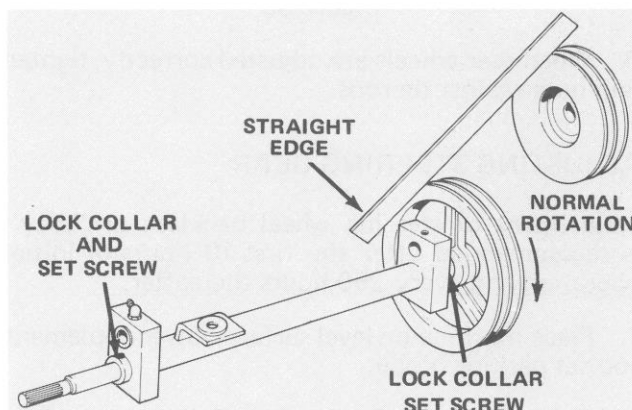

Figure 52
3. Loosen set screws in lock collars at front and back of PTO pivot shaft (Fig. 52). Using a punch and hammer, loosen collars by driving them opposite the direction of normal shaft rotation. The PTO shaft and PTO pulley assembly should now be free to slide.
4. Using a straight edge, line up top of engine pulley, with top of PTO pulley (Fig. 52). When top of pulleys are aligned, bottom of pulleys are misaligned by 3°. Move PTO pulley until it is in line with the engine pulley. Then lock the pivot shaft and pulley in place by tightening the lock collars in the normal direction of shaft rotation (Fig. 52). Check alignment of pulleys again to assure alignment did not change when collars were tightened. If alignment is still correct, tighten lock collar set screws.